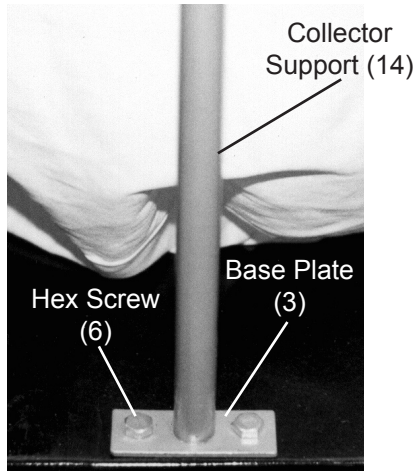

Figure 1
- b. Step 2) Attach the first Collector Support (14) to the Base Plate (3). Line up the Collector Support (14) with holes on edge of the Base Plate (3). Insert Hex Bolt (6) down through Washer (4), Base Plate (3) and secure in place with Nut (2). (See Figure 1.)